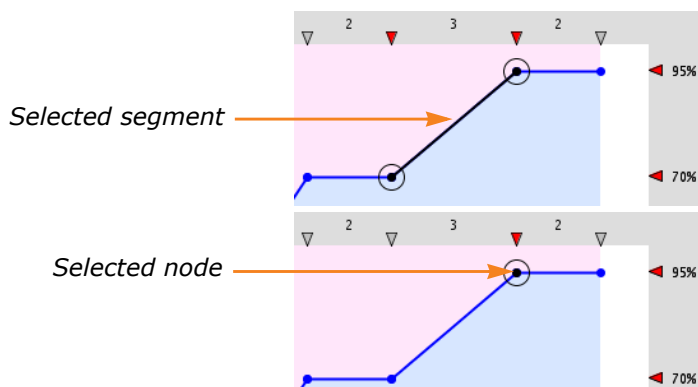

Figure 4-2. Selected Gradient Segment and Node
5. To add a gradient segment, select a segment in the gradient table or the graph (see Figure 4-2) and press **Add**. The new segment will be added after the selected segment.
7. To delete a gradient segment, select it in the gradient table or the graph (see Figure 4-2) and press **Delete**.
- Using the gradient graph: Drag the segment or node to the desired position (with 0.5 CV and 5% resolution). To fine tune (with 0.1 CV and 1% resolution), select a segment or node (see Figure 4-2) and use the ◀ and ▶ buttons to increase or decrease the length of a segment and the ▲ and ▼ buttons to increase or decrease the solvent percentage. The fine tuning buttons are only available when the gradient table is not shown.